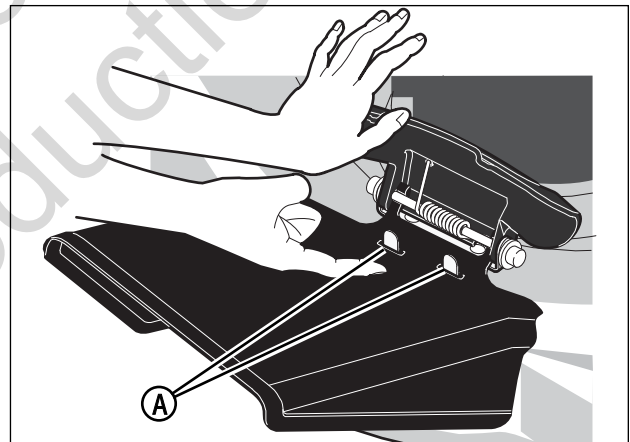
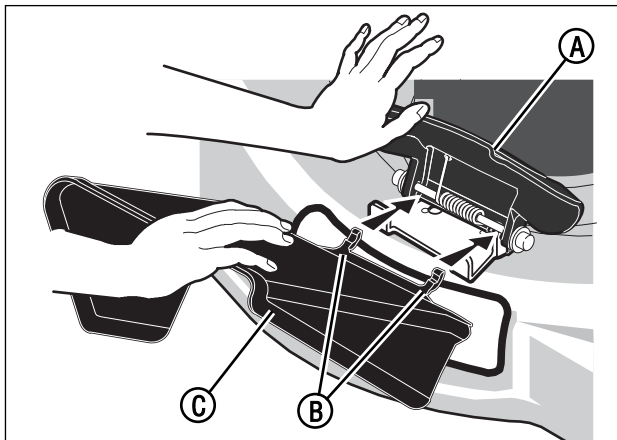

Figure 14: Side discharge deflector locking tabs
Figure 13: Installing the side discharge deflector
1. Raise the mulcher cover (A, Figure 13).
2. Slide the two tabs (B) on the side deflector (C) under the pivot pin.
3. Lower the side deflector. Make sure the locking tab (A, Figure 14) goes through the slot in the side deflector.